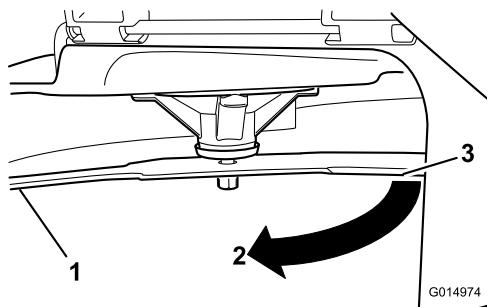

Figure 52
3. Measured distance between blade and the surface (A)
4. Rotate the same blade 180 degrees, so that the opposing cutting edge is now in the same position (Figure 52).